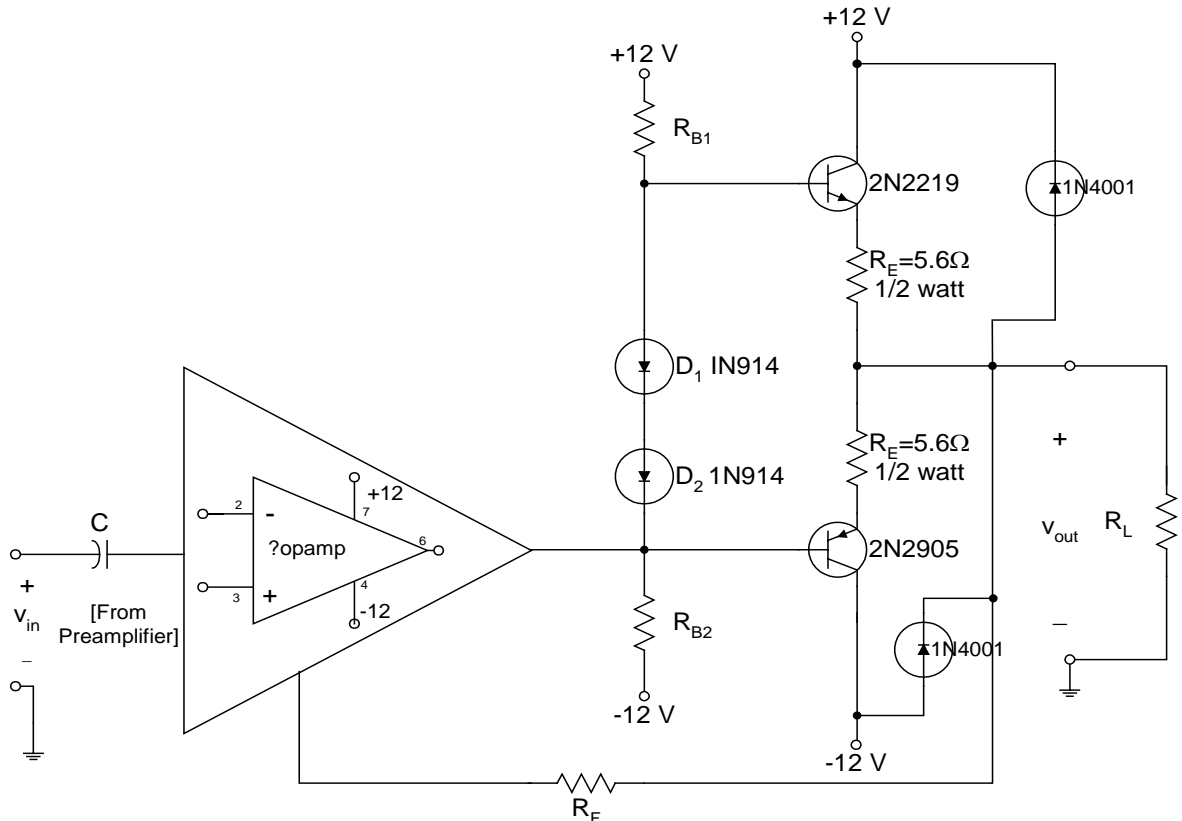

Figure 1: Amplifier circuit for experiment 1.
In this experiment you will build and examine the performance of the dc-coupled output stage amplifier whose schematic outline is given in Figure 1. This amplifier is intended to have a gain of 20 dB with less distortion than that found in the amplifier of experiment 5 of Lab 4.
5. Reconnect the amplifier as originally shown in Figure 1. Observe the maximum clean peak-peak output voltage swing into the $100\ \Omega$ load at 1000 Hz. Now connect the output of the op-amp to the junction between diodes D_1 and D_2 instead of to the base of the PNP transistor. What difference does this change make in the output voltage swing? **[Q 1.14 Why?]**